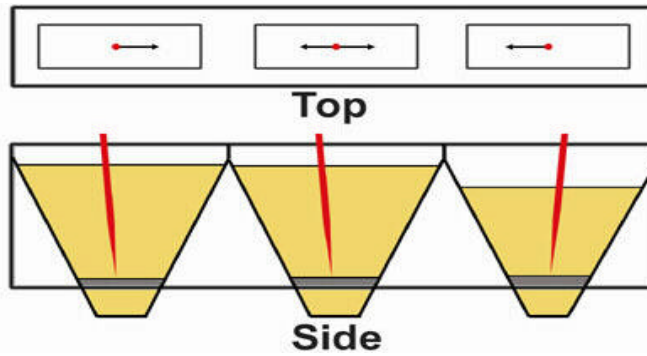

Figure 5 – Lift-top Barges
3. Lift-top and roll-top barges, draw the first probe 4 feet from the stern end of the barge and 7 feet from the side. Take remaining probes at 15-foot intervals to the bow end of the barge. The last probe is taken 4 feet from the box end and 7 feet from the side (Fig. 5)